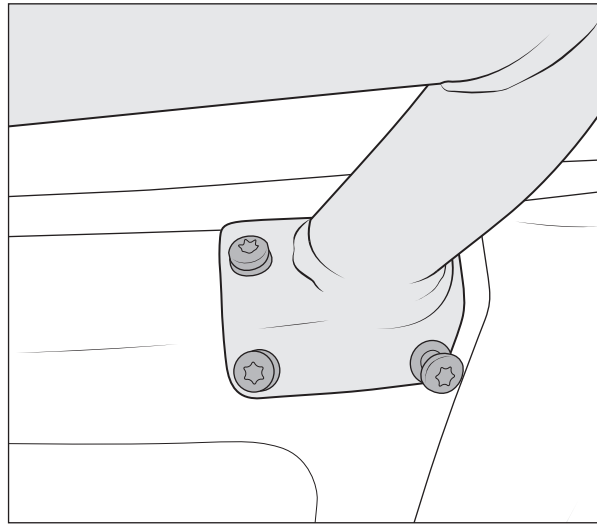

Figure 25
4. Fasten the three M10x38 6-lobed bolts and flange nuts on both the right and left side (fig 25).